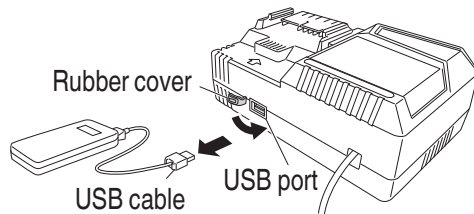

Fig. 25
- (3) When charging is completed
- Unplug the power cord from the electrical outlet. (Fig. 25)